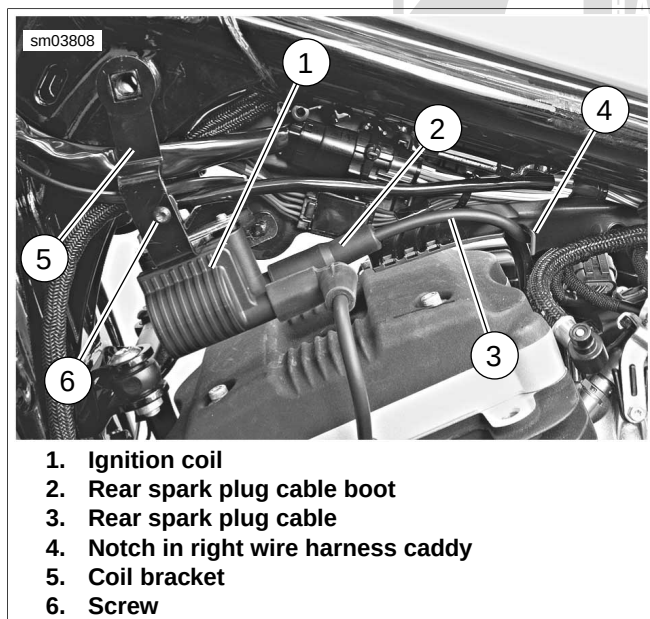

Figure 6-117. Rear Spark Plug Cable Routing
9. See Figure 6-117. Raise coil bracket (5) up into position and mount it on boss on left side of frame. Secure coil bracket to ignition switch bracket with screw (6). Tighten to 35-45 **in-lbs** (4.0-5.1 Nm).